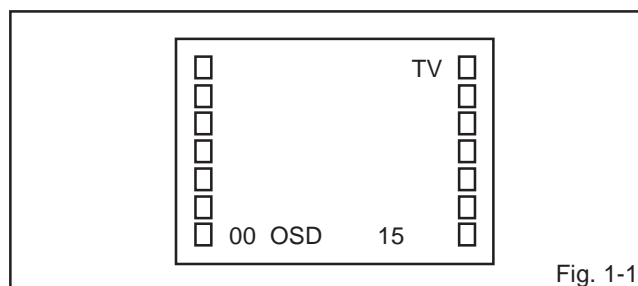

Fig. 1-1
Press the VOL. DOWN button on the set and the Channel button (9) on the remote control for more than 1 second to appear the adjustment mode on the screen as shown in Fig. 1-1.
4. Activate the adjustment mode display of Fig. 1-1 and press the channel button (02) on the remote control to select "RF DELAY".
3. Activate the adjustment mode display of Fig. 1-1 and press the channel button (01) on the remote control to select "CUT OFF".